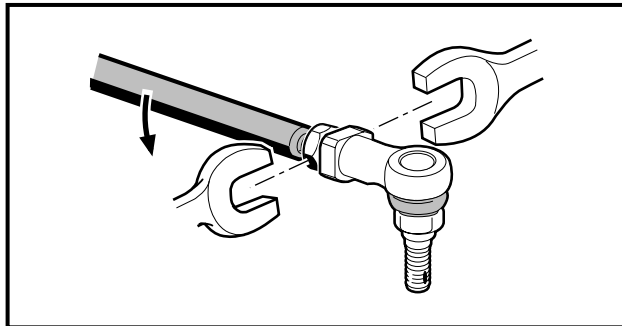

Figure 7-9 Ball Joint
1. Remove the two ball joints and inspect for excessive wear (**Figure 7-9, Page 7-7**).